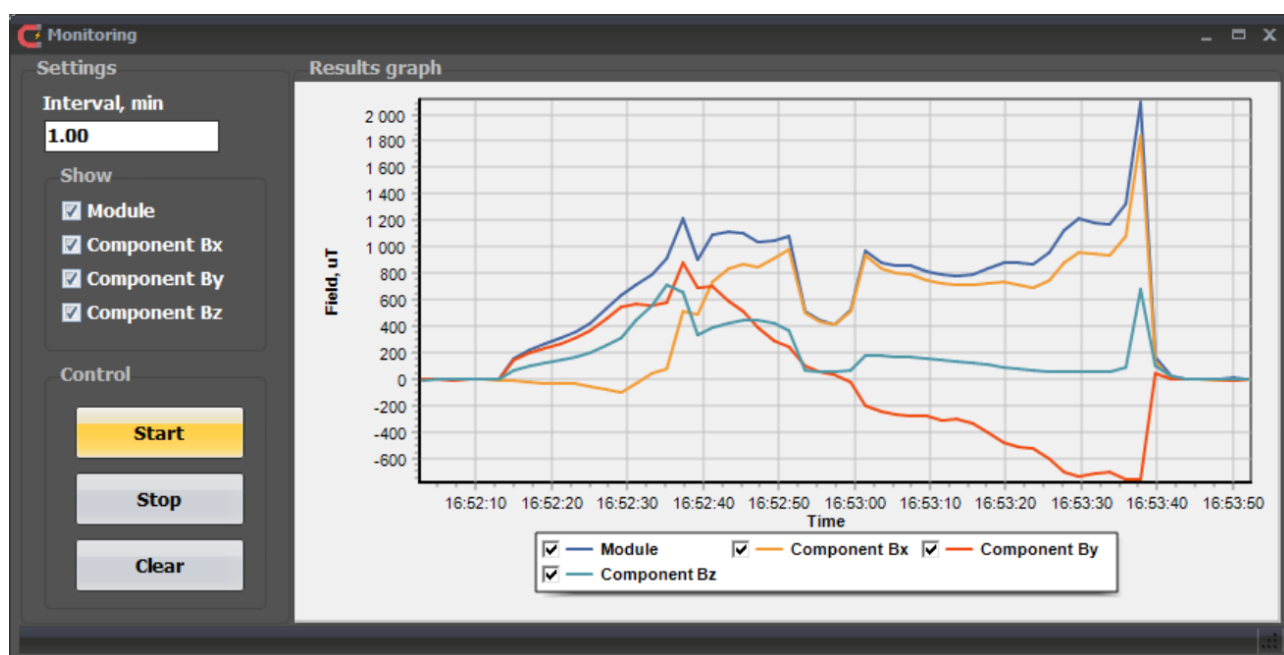

Figure A.9. Monitoring window
- “Monitoring...” - opens the magnetic field monitoring window (see Figure A.9);
5.5 The “Monitoring” window in the “Analysis...” menu performs continuous magnetic field measurements at specified time intervals to track changes in the magnetic field parameters. The window is shown in Figure A.9 and contains the following controls: